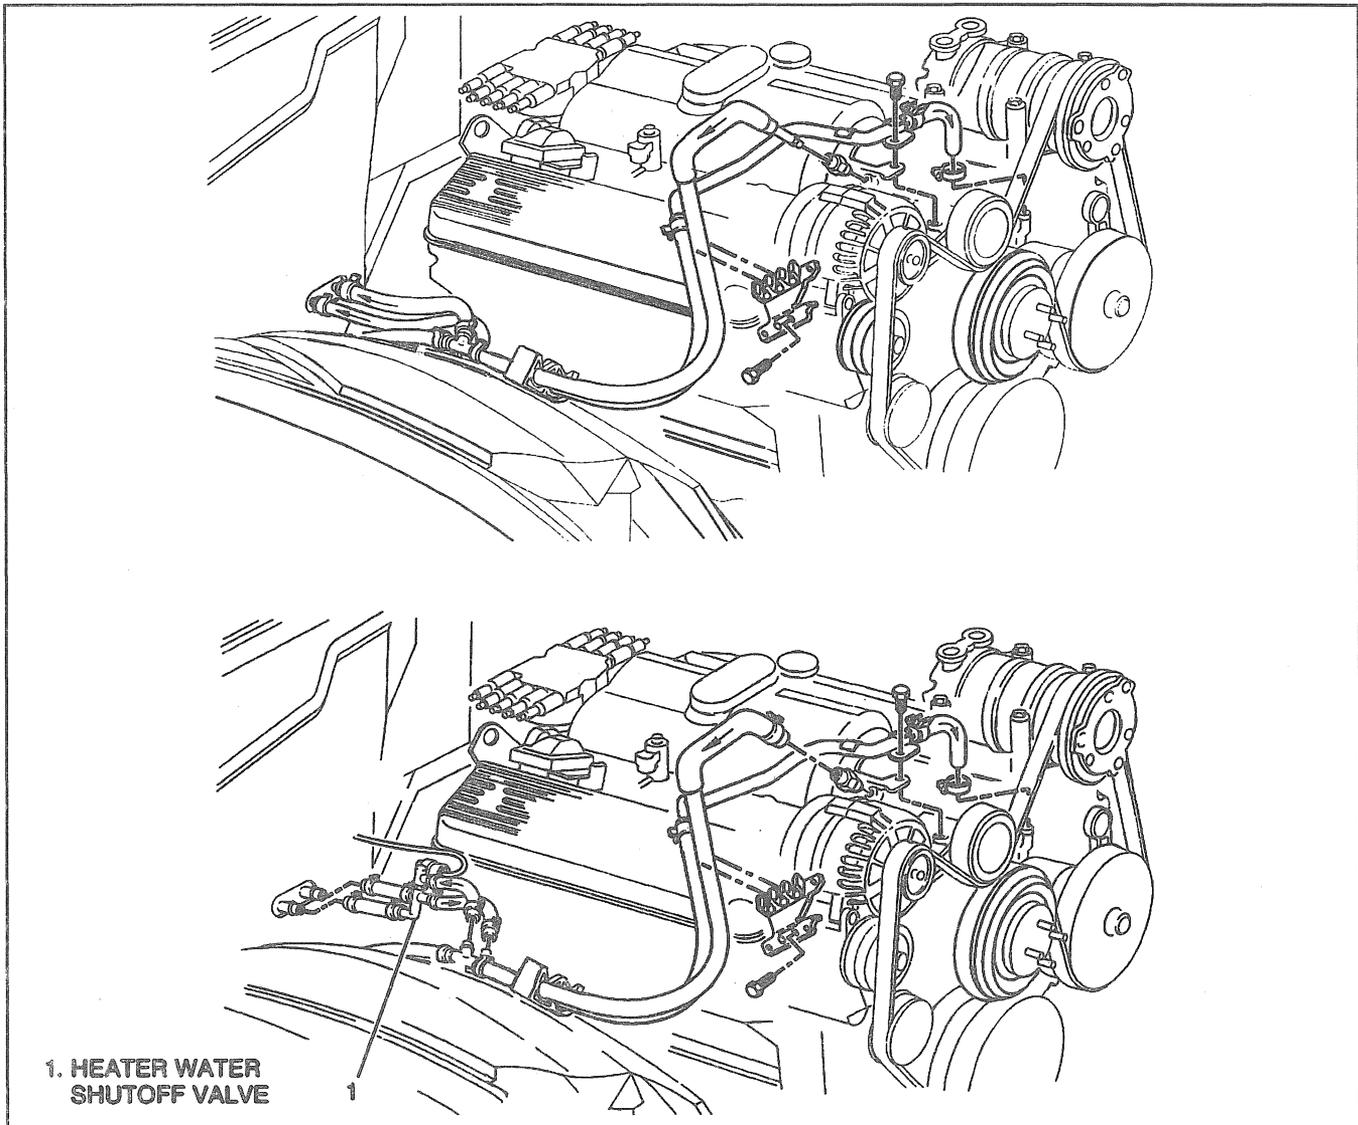

Figure 21—Auxiliary Heater Hose Routing
**↔** Remove or Disconnect (Figures 21 through 23)